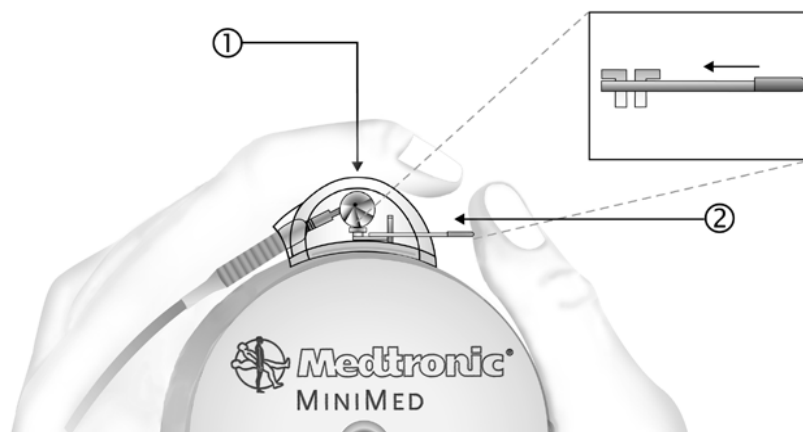

Figure 10: Proper attachment of the Side Port Catheter to Pump
6. Only after the Catheter is seated, squeeze the connector (see Figure 10, item 1), firmly against the Pump between the thumb and forefinger of one hand. Then push the locking bar (item 2) into place with the thumb of the other hand.